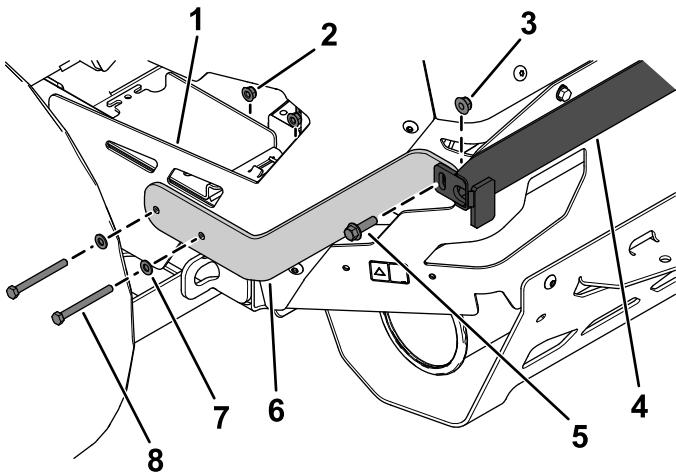

Figure 9
- Loosely secure the left, upper bracket to the left, rear guard and upper support using 2 hex-head bolts (5/16 x 3-1/4 inches), 2 plain washers, 2 flange nuts (5/16 inch), 1 flange-head bolt (3/8 x 1-1/4 inches), and 1 locknut (3/8 inch) as shown in Figure 9.